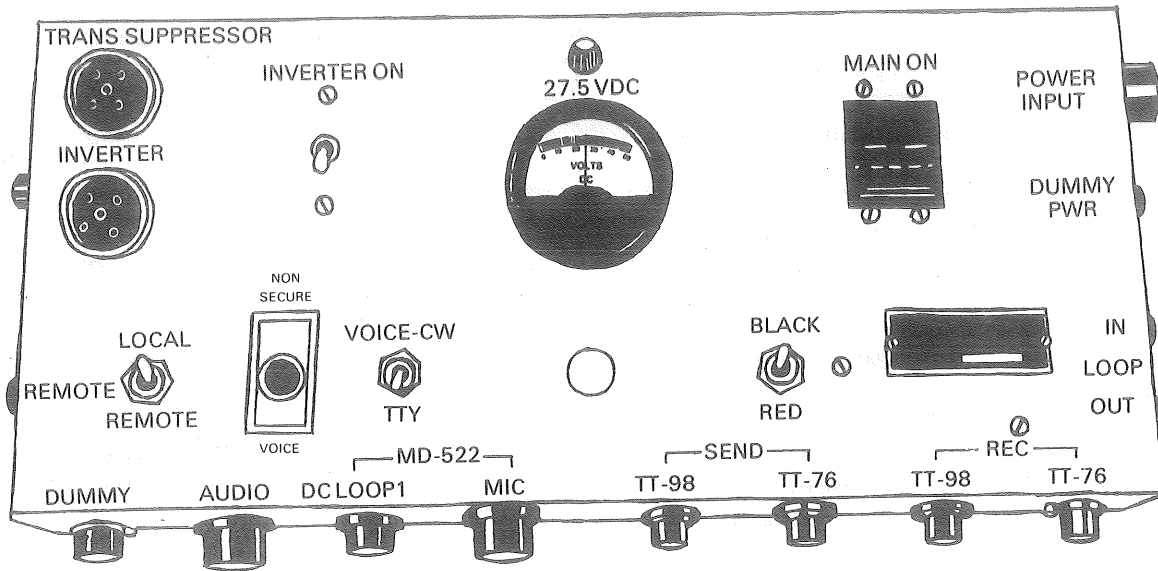

Figure 1. Control Box AN/VSC-3
4. Perform Teletypewriter Starting Procedures. (Refer to fig 1 and TM 11-5815-332-15, para 3-9.)
- a. Control Box (fig 1). Perform the following:
- (1) Set the MAIN circuit breakers to ON and observe that the 27.5 VDC indicator lights and the DC voltmeter indicates 37.5 VDC.
- (2) Set the INVERTER breaker to ON and observe that the inverter is operating.
- (3) Set the VOICE-CW/TTY switch to TTY.